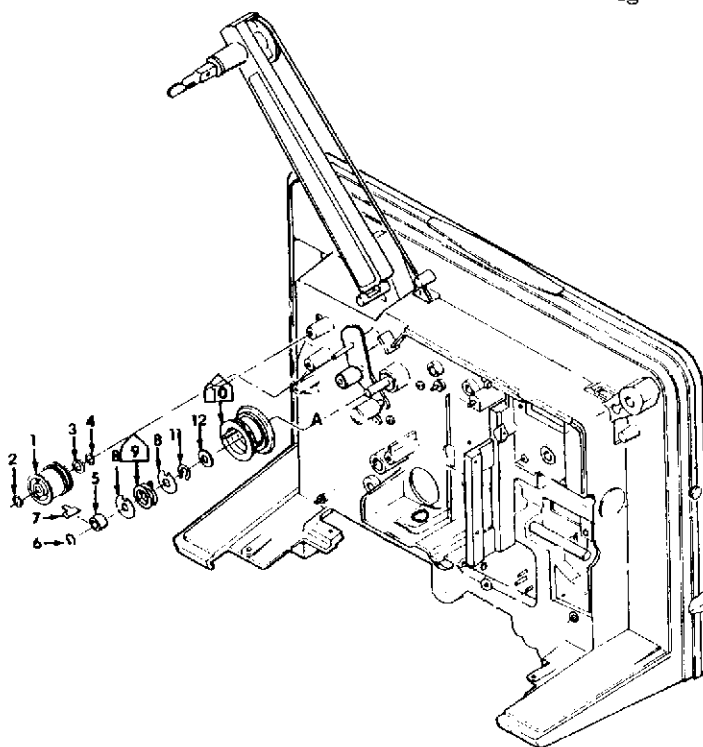
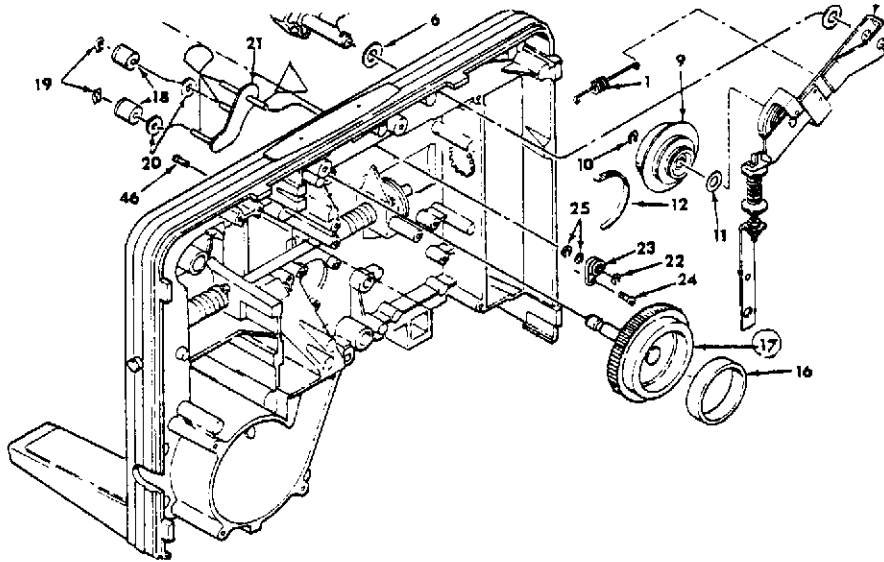

Figure 3-12 REMOVAL AND REASSEMBLY OF TAKE-UP SPROCKET
Figure 3-13. REMOVAL AND REASSEMBLY OF TAKE-UP GEAR
2. Remove the Grip Ring (6) and manually rotate the take-up Sprocket (10) clockwise slightly to move the sprocket Pin away from the stop (7). (Figure 3-12)
3. Grasp the Stop (7) with a pair of pliers and pull it straight out.
4. Slowly release your grip on the Sprocket (10) and allow the Spring (9) to unwind.
5. Remove the Spacer (5), Outside Washer (8), Spring (9) and Inside Washer (8). (The two washers (8) are usually removed easily with a magnet.)
6. Remove Grip Ring (11), Washer (12) and Sprocket (10).
7. Slide the Take-Up Gear out of the main casting bearing (Figure 3-13).
3. Assemble the sprocket (10) and the correct number of Washers (12) to allow for .003 to .007" end play of the sprocket (10) when the Grip Ring (11) is installed (Figure 3-12).
4. Install Inside Washer (8) and Spring (9). (The Spring (9) should be installed so turning the Sprocket (10) clockwise will tighten the Spring.)
5. Install Outside Washer (8) after lubricating the surface of the Spring (9) with Teresso Instrument Oil (39479-P8).